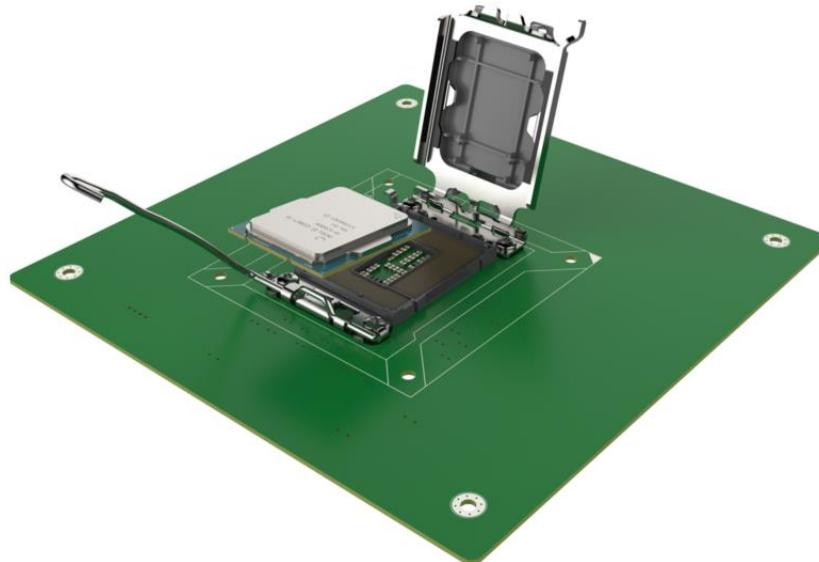

Figure 4-3: Insert the Socket LGA1700 CPU
Step 7: Insert the CPU. Gently insert the CPU into the socket. If the CPU pins are properly aligned, the CPU should slide into the CPU socket smoothly. See **Figure 4-3.**